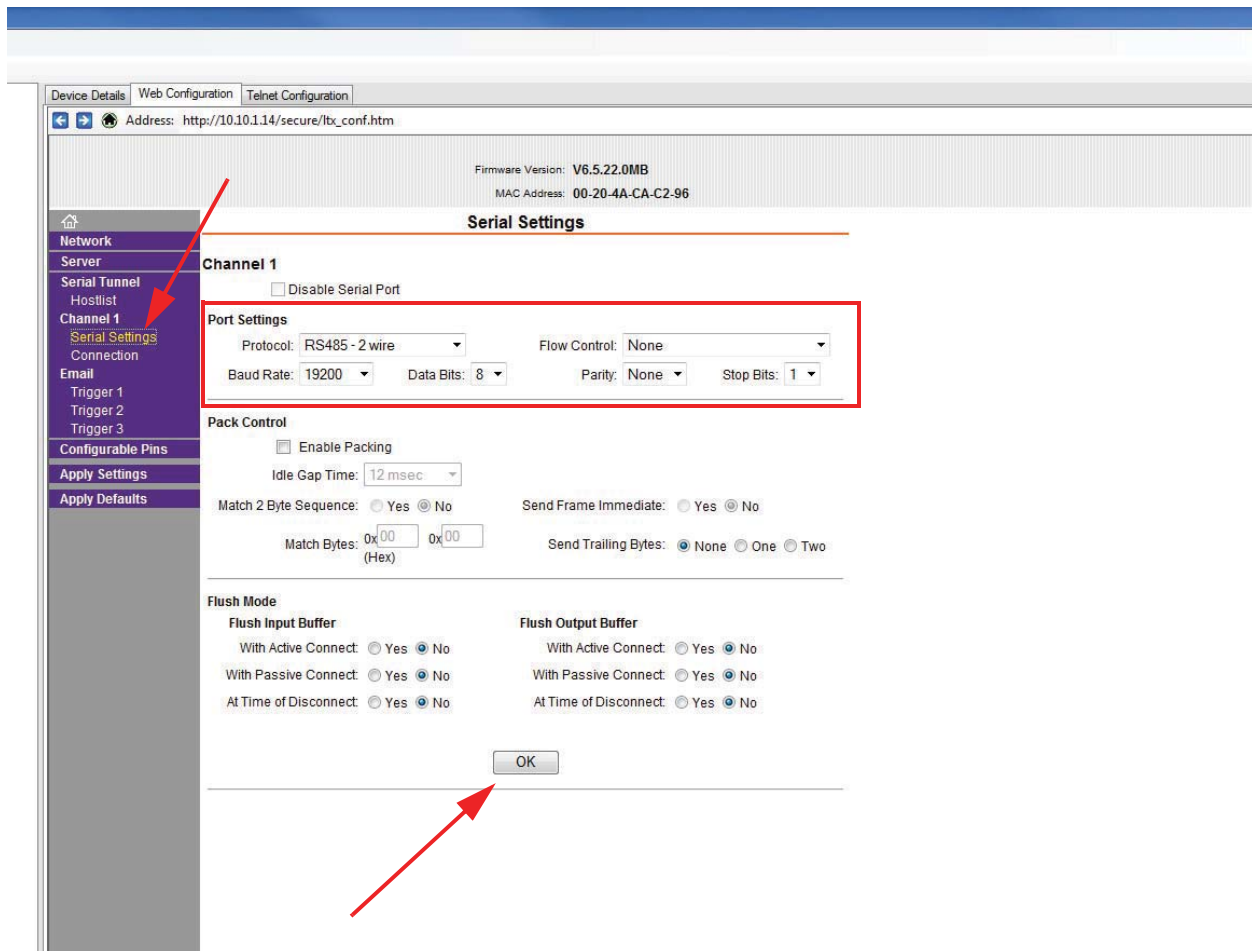

Figure 4-10 Serial Settings
- Press the **OK** button to save the settings. Serial Settings will display **Done!** See Figure 4-10.